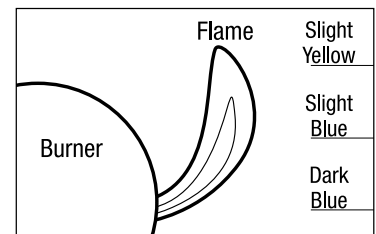

FIG. 4
9. After lighting, observe the burner flame. Make sure all burner ports are lit and flame height matches illustration (Fig. 4).